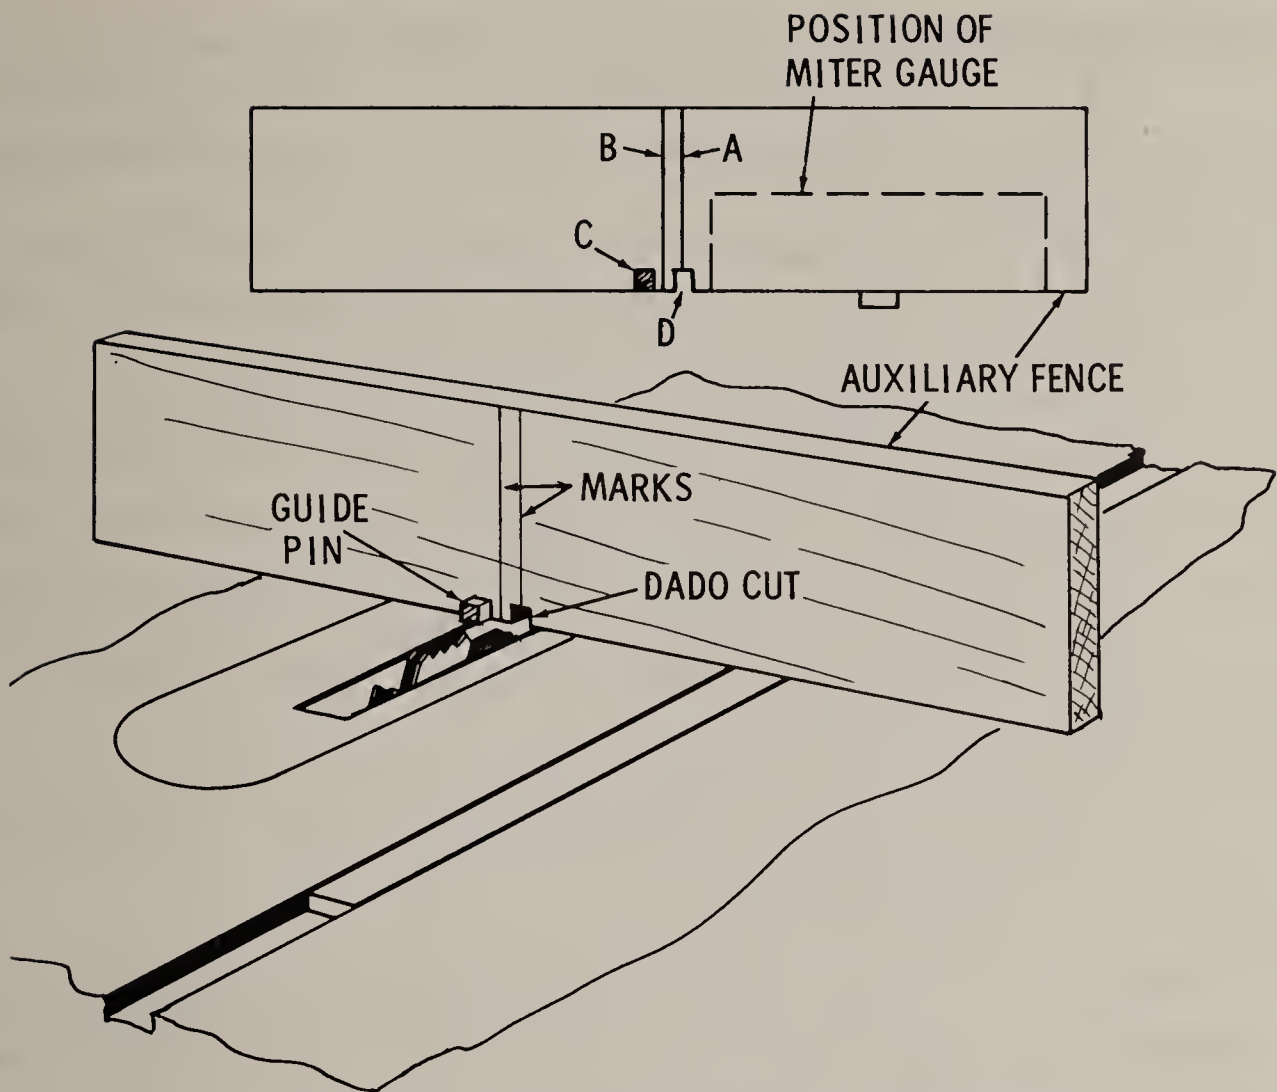

Fig. 20. *Jig for cutting evenly spaced dados and method of placement on saw table.*
5. Remove the fence, and mark the position of a second cut D, Fig. 20, spacing this from the first cut C, the same width as the dado. At the same time, mark the lines A and B, centering them as shown.
6. Now, nail a square piece of wood in the first dado cut as noted in Fig. 20, and make the second dado cut, D, with the auxiliary fence fastened to the miter gauge.